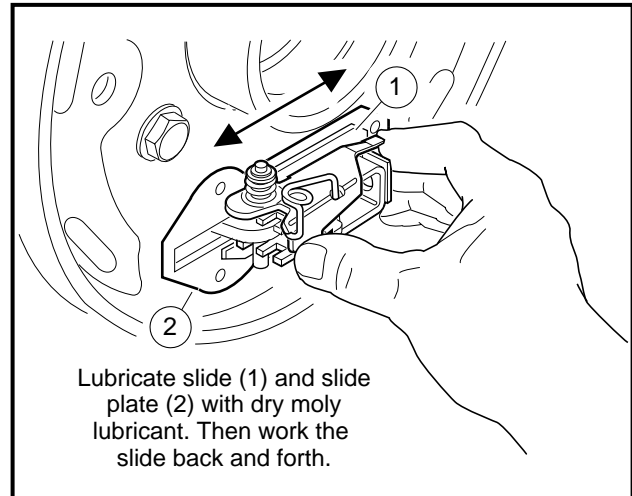

Figure 6-8 Lubricate Slide
3. Lubricate the slide (1) and slide plate (2) with dry moly lubricant (Club Car Part No. 1012151) on both sides of the backing plate. After lubricating, work the slide back and forth to ensure it slides smoothly and easily (**Figure 6-8, Page 6-5**). Reinstall rubber boot onto backing plate.